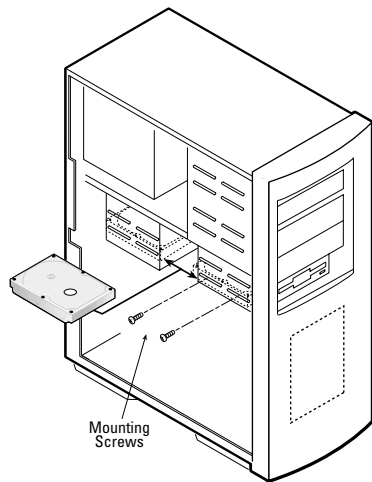

Figure 7. Typical 3.5-inch Device Bay Installation
- **Mount the hard drive in the 3.5-inch bay using four of the screws included in the kit.** See Figure 7.